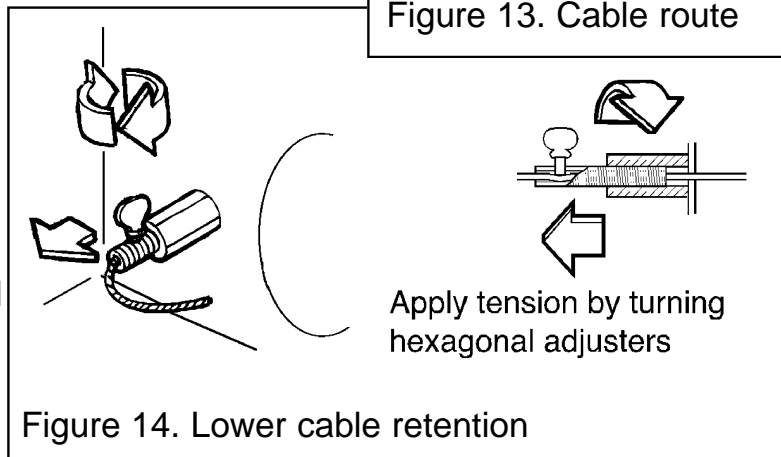

Figure 14. Lower cable retention
9. Pull each cable taut. Push the cable retainers hard up against the back panel. The end of the cable adjuster will pass into the hole. Tighten the screws in the retainers so that they clamp the cables in position. Apply tension to the cables by turning the hexagonal adjusters by hand. (See figure 14).